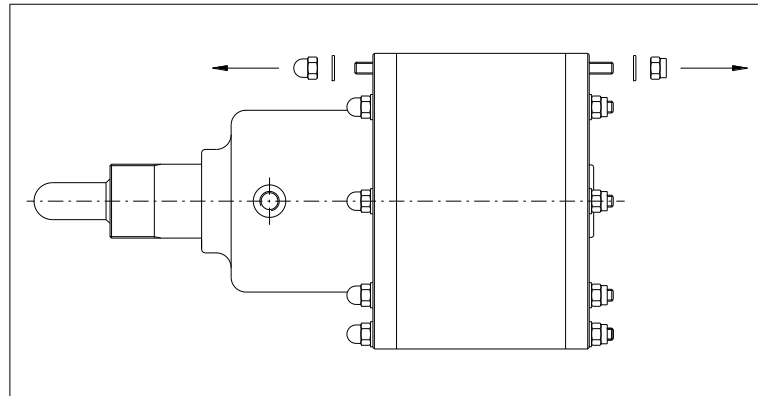

Figure 6
6. Remove the threaded bars and their nuts which anchor the thruster body E80823, the bell and the cover (Figure 6); unscrew slowly and carefully so that the preloaded springs are released gradually.